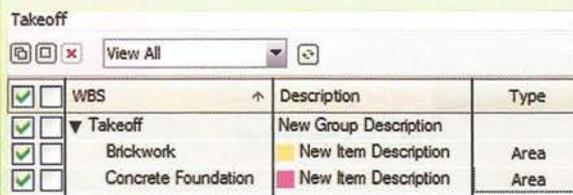

Fig 38: Group with Items
- In the 'Takeoff' palette, create a group called as 'Takeoff' with two items called as 'Concrete Foundation' and 'Brickwork'. Set the item type as 'Area' for both the items (Figure 38).